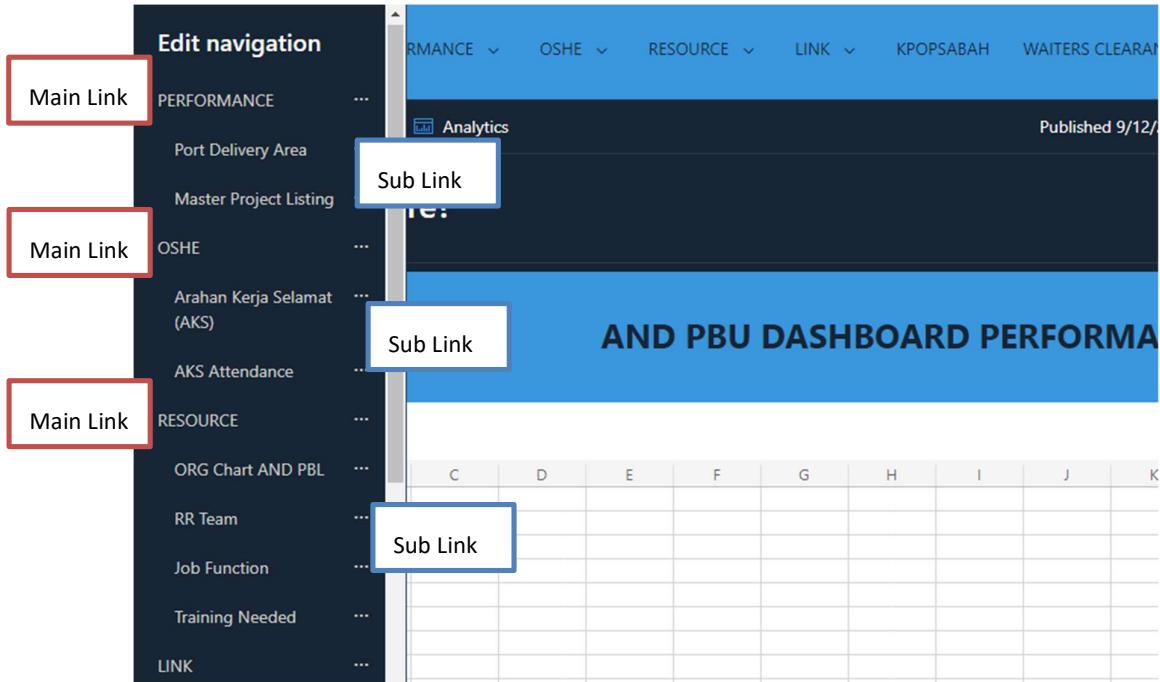

Figure 3.19: Main & Sub link on Editing part Navigation Bar
14. Figure 3.19 shows the Editing part of the NAVIGATION Bar. It splits into the Main link & Sub link.